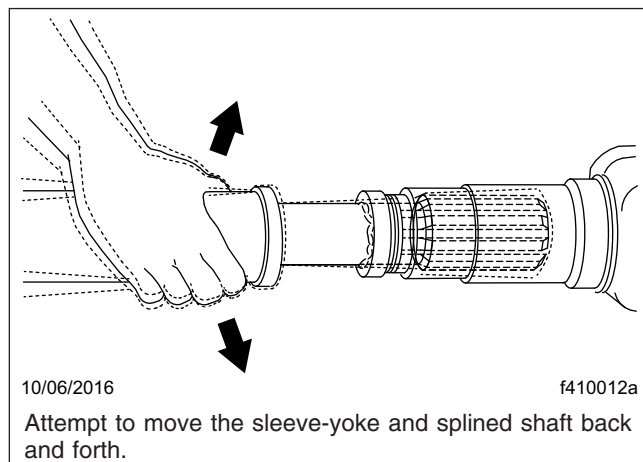

Fig. 4, Slip Joint Spline Wear Checking
6. Check slip joints for spline wear by moving the sleeve-yoke and splined shaft back and forth. See **Fig. 4**. If the slip joint can be twisted in a clockwise, or counterclockwise movement